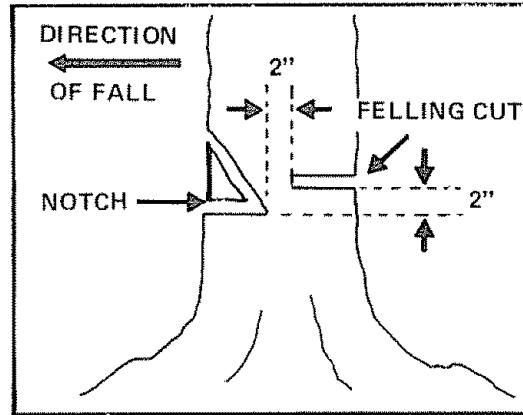

Figure 28
- a. Make the notch cut. Figure 28.